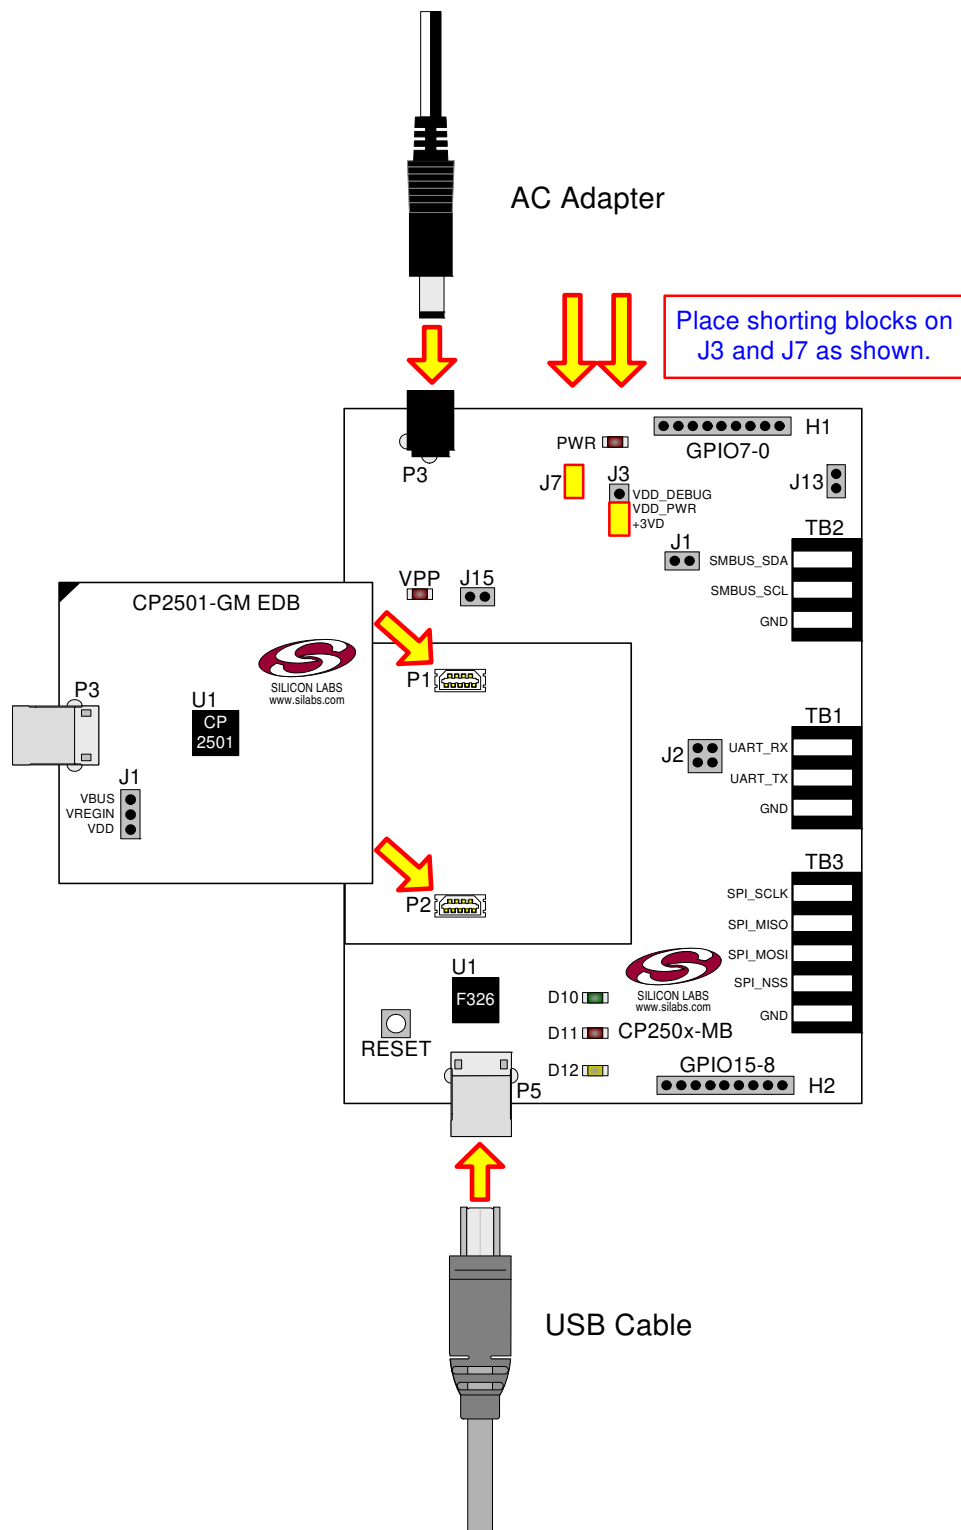

Figure 1. Hardware Setup
See Figure 1 for a diagram of the hardware configuration.
2. Place shorting blocks on J7 and J3 [+3VD, VDD_PWR], as shown in Figure 1.